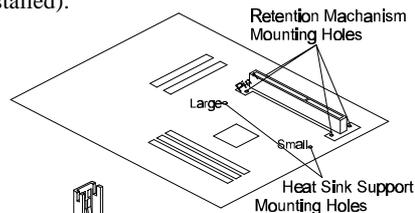

Figure 2-6
1. Finds out the Universal Retention Mechanism (URM) Mounting Holes of Slot1 on HOT-673 main board. (Refer to Figure 2-6)